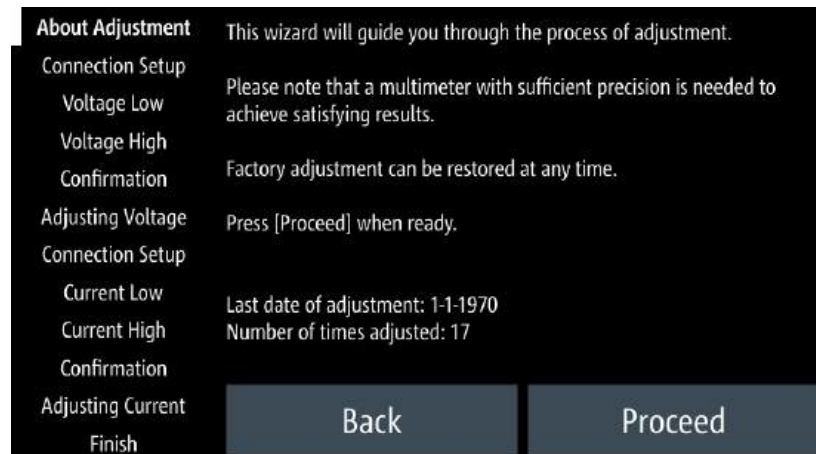

Figure 5-43: Channel adjustment wizard
Select "No" to return to the channel adjustment wizard, see Figure 5-43.
4. Follow the on-screen instructions displayed in the Figure 5-43.